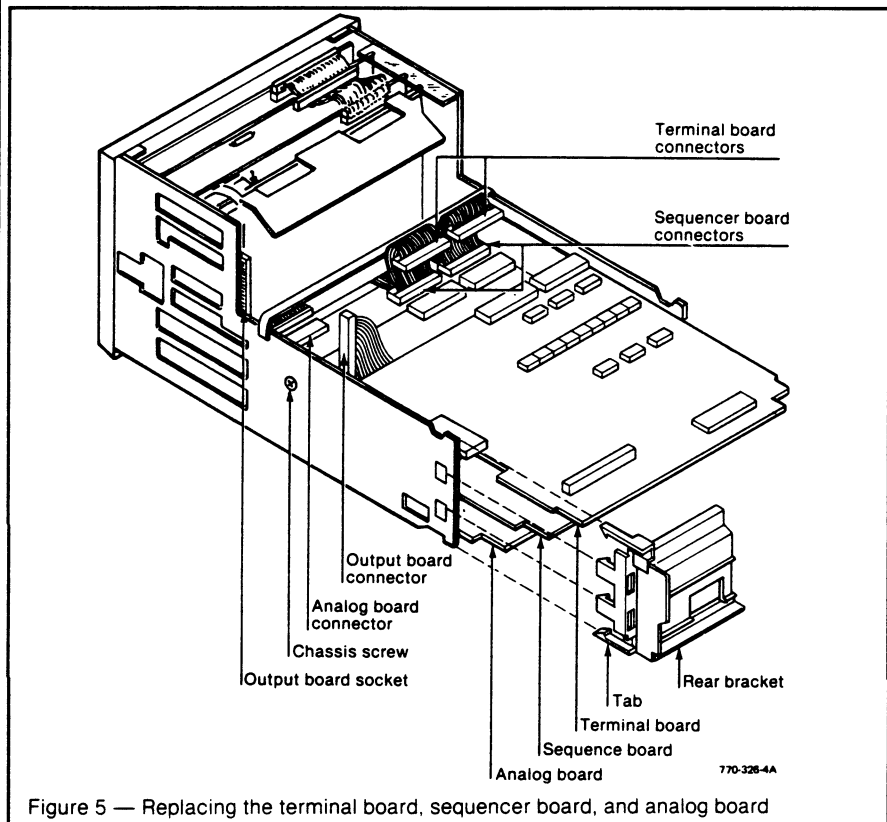

Figure 5 — Replacing the terminal board, sequencer board, and analog board
1. Use a screwdriver to lift the four tabs on the side of the rear bracket and remove the bracket (Figure 5).